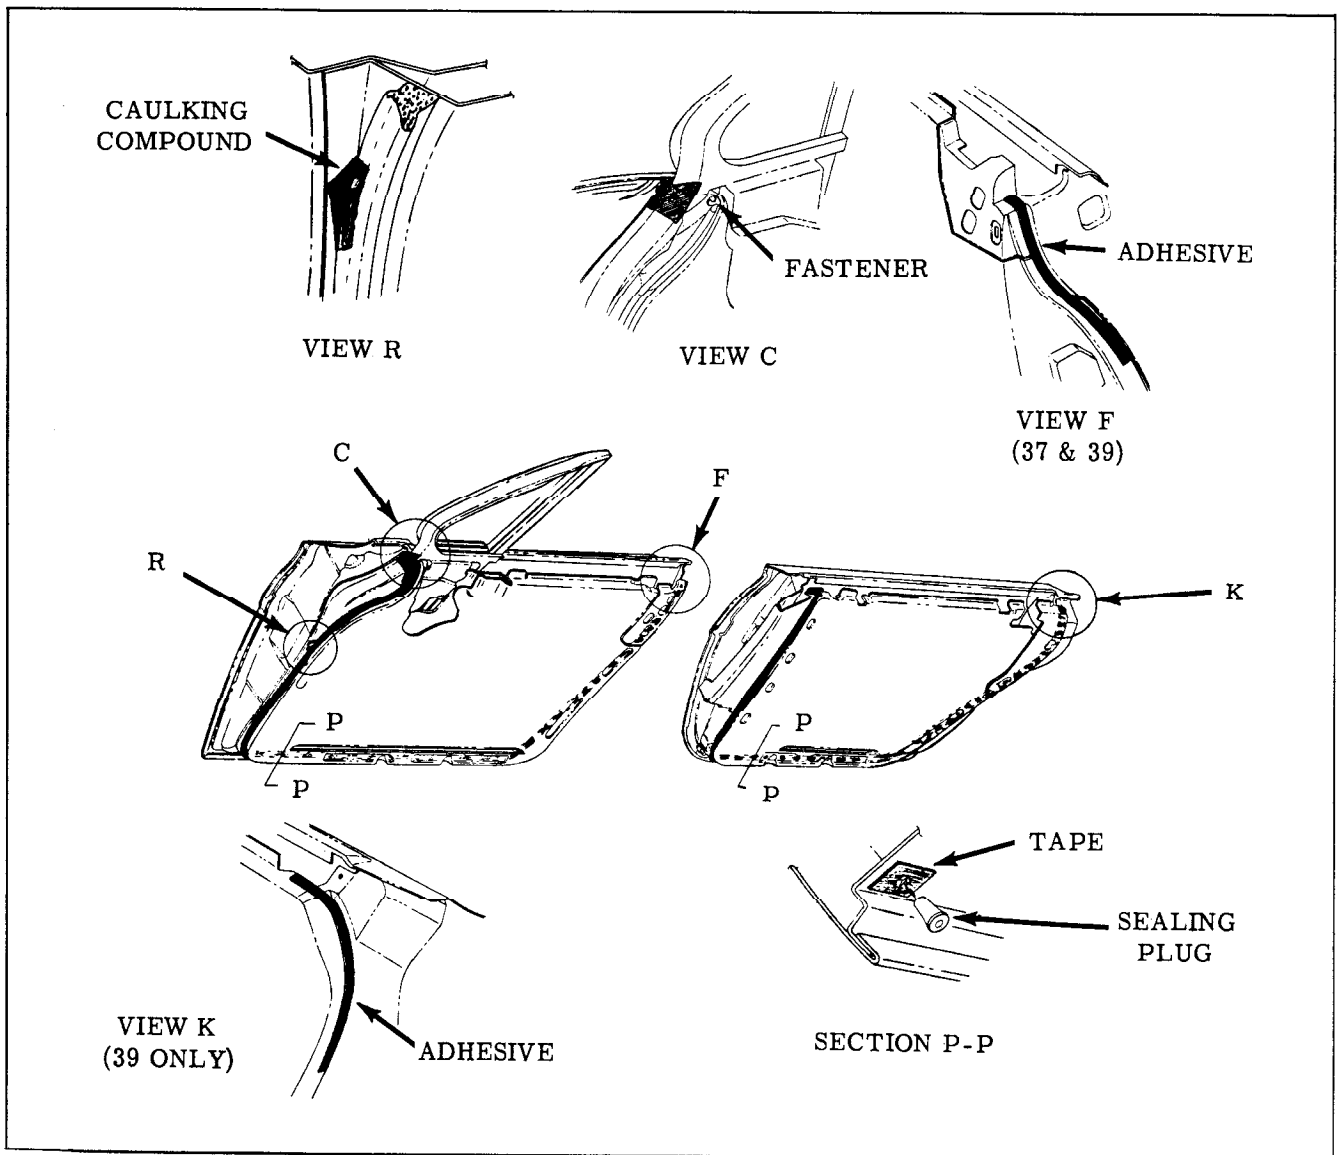

Fig. 17-13 Door Weatherstrip (Typical of "29", "37", "39" and 67 Styles)
- At upper rear portion of front door weatherstrip on "37" and "67" styles and upper rear portion of rear door weatherstrip on "29" and "39" styles, carefully break cement bond securing weatherstrip to door inner panel. (Fig. 17-13, Views "F" and "K")
- Check all attaching hole sealing plugs. If sealing plugs are loose and will not remain engaged in door inner panel, install a 1/2" x 1" piece of cloth backed waterproof body tape over sealing plug retaining hole. (Section "P-P", Fig. 17-13) Make two 5/16" slits in
7. On front doors, midway down from top of weatherstrip, fill area between weatherstrip and door inner panel with body caulking compound. (View "R", Fig. 17-13)